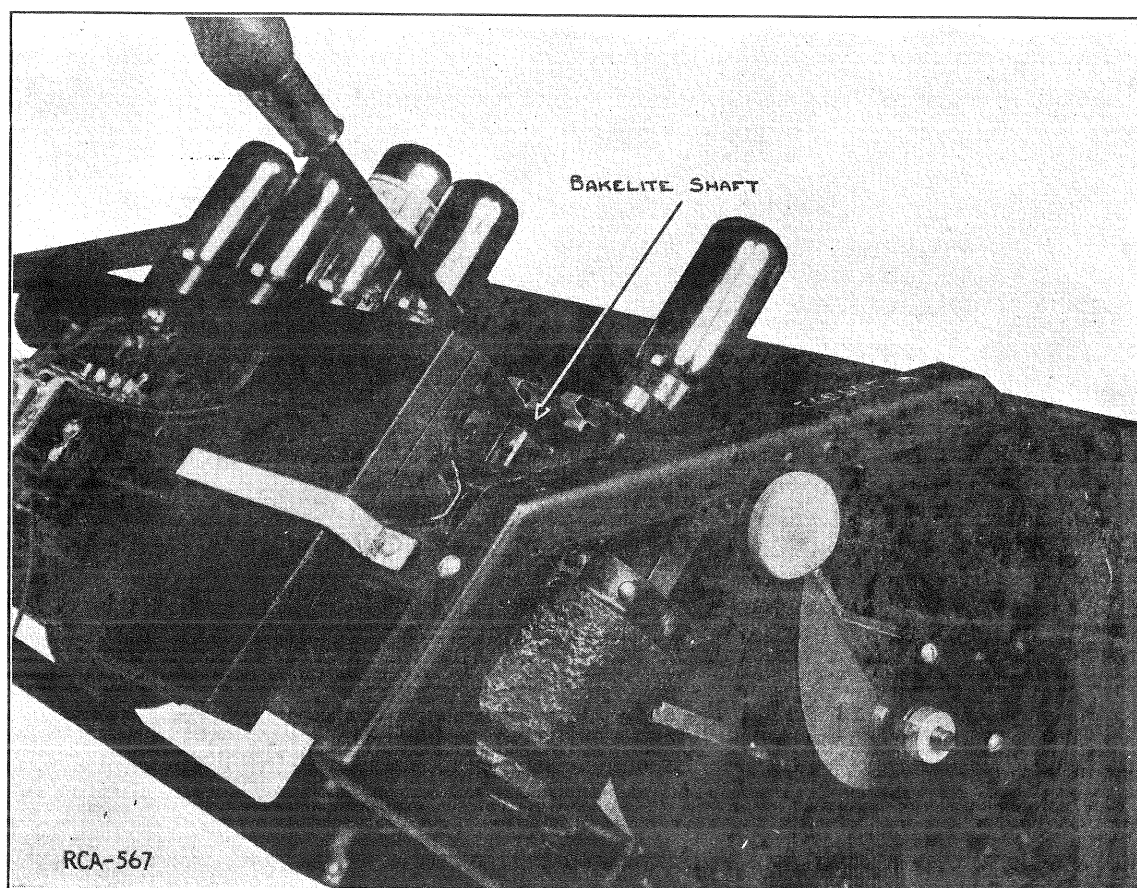

Figure 5
- (1) Place Radiola 20 in operation in the usual manner with antenna and ground attached. Phones instead of loudspeaker are used.
- (2) Place modulated oscillator into operation at 1100 K.C. at a point close to the antenna wire and 20 feet or more from the Radiola.
- (3) Tune in Oscillator signal to maximum intensity, carefully adjusting verniers.
- (4) Set Amplification dial at zero.
- (5) Insert special Radiotron in socket No. 1 in place of regular Radiotron UX-199. Note if any signal is heard. If not, this particular stage is neutralized, but if signal is heard even of decreased volume, neutralizing condenser No. 1 (directly behind No. 1 socket) should be adjusted. (See Fig. 5.) This is done with the insulated screw driver and should be adjusted until minimum or no signal is obtained. This point will be found to be very critical and is the correct adjustment for this particular stage.